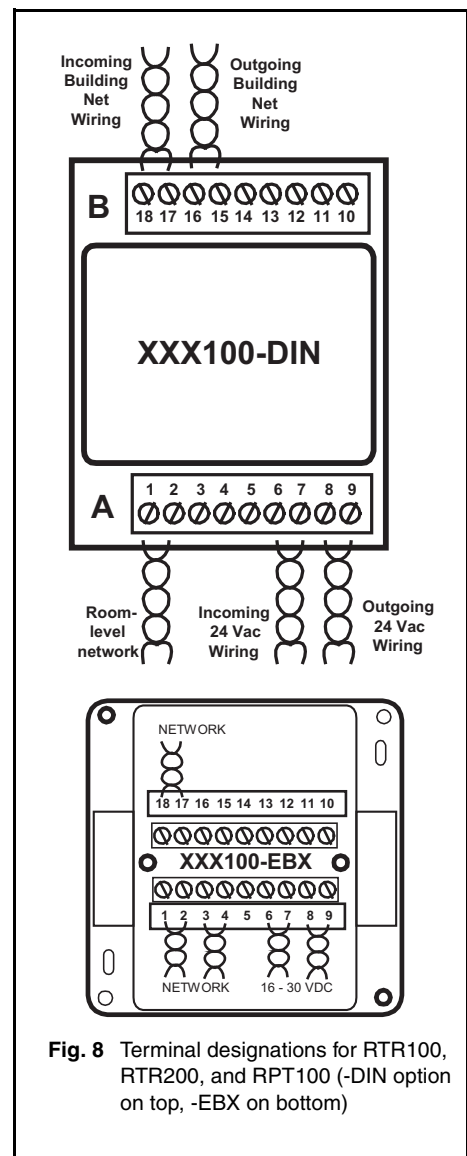

Fig. 8 Terminal designations for RTR100, RTR200, and RPT100 (-DIN option on top, -EBX on bottom)
- For the RTR100 and RTR200, use terminals 1 and 2 or the A side of the router (see Figure 8).
- Attach the FTT-10 floor level network wiring to terminals 15 and 16, or 17 and 18, or the B side of the router (see Figure 8).
- On the RTR100, use terminals 15 and 16, or 17 and 18 of the B side of the router (see Figure 8).
- Incoming communications to terminals 1 and 2 ,or the A side (see Figure 8)
- Outgoing communications to terminals 17 and 18, or the B side (see Figure 8)
- The A side to terminals 3 and 4 (see Figure 8)
- The B side to terminals 15 and 16 (see Figure 8)
- Connect incoming power connections to terminals 6 and 7 (see Figure 8).